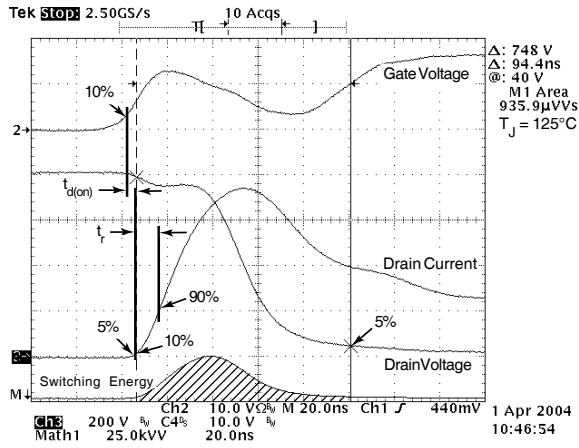

Figure 18, Turn-on Switching Waveforms and Definitions
③ See MIL-STD-750 Method 3471
④ Starting $T_j = +25^\circ C$, $L = 18.06mH$, $R_G = 25\Omega$, Peak $I_L = 12A$
⑤ dv/dt numbers reflect the limitations of the test circuit rather than the device itself. $I_S \leq I_D - 12A$, $di/dt \leq 700A/\mu s$, $V_R \leq 1200$, $T_j \leq 150^\circ C$
⑥ E_{on} includes diode reverse recovery. See figures 18, 20.